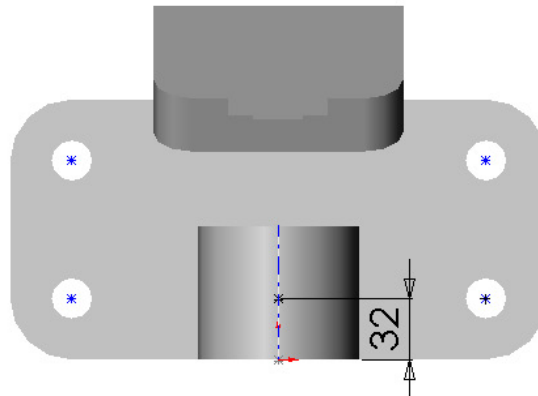

Figure 33 Top hole placement.
44. Add constraints and dimension the hole center as shown in Figure 33. Then click **Finish** in the Hole Placement dialog box. (**Note:** There will be an error message in the dialog box. Click **OK** to ignore it.)